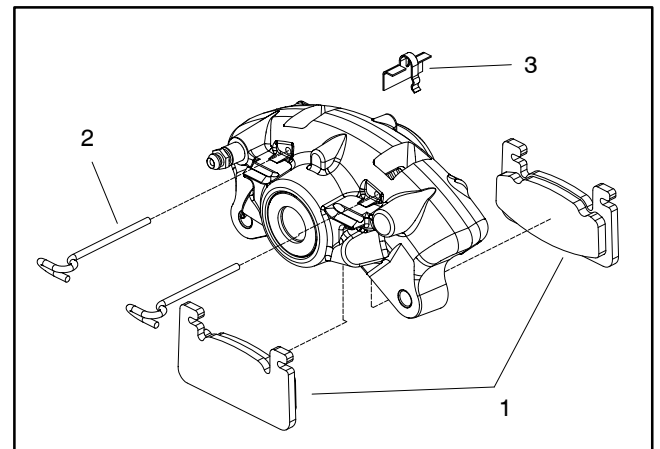

Figure 9
5. Remove two (2) cap screws and lock washers that secure the brake caliper to the spindle.
7. If necessary, remove brake pads from caliper (Fig. 9):
1. If brake pads were removed from caliper, install pads (Fig. 9):
C. Secure pads into caliper with two (2) pins. Make sure that pins snap into caliper slots. Install anti-rattle clip to caliper, pin and brake pads.